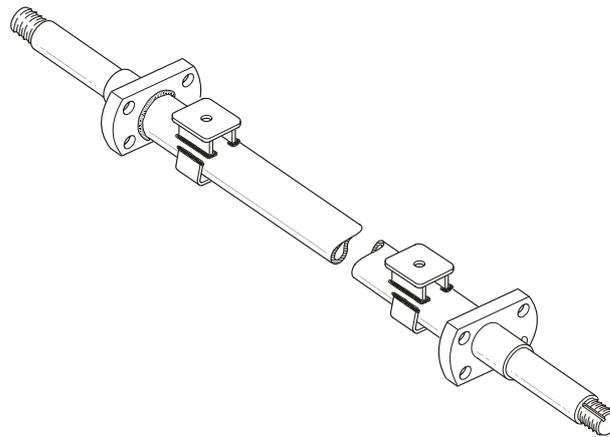

Figure 2 Axle Assembly
5. **Axle.** The axle fitted to this trailer (Figure 2) is a tubular steel beam assembly manufactured by Engineered Transport Equipment. It is fitted with stub axles, bump stop seats and spring seats.